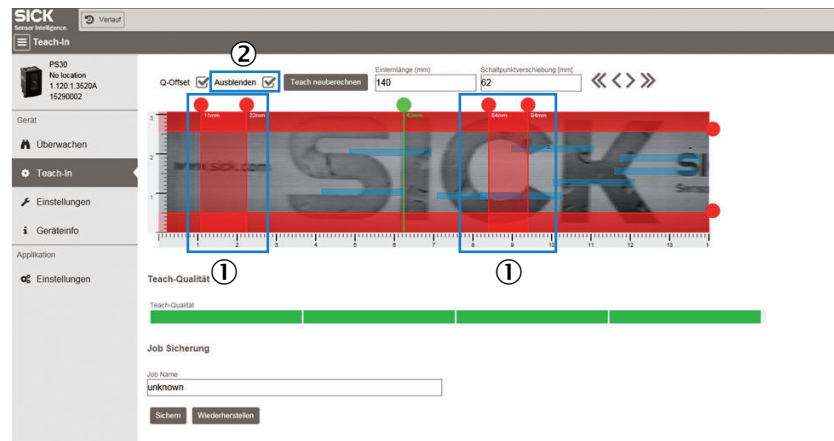

Figure 38: Appearance of the Teach-in menu with blanking.
- ① Blanked areas or teach-in areas
- ② Recalculation of the reference areas
Selecting the checkbox using the cursor enables the blanking function; up to two areas (in Endless material operating mode) can then be blanked by moving the red markers using the cursor (see ① in the figure 38). Areas that have been blanked are no longer analyzed. Blanking provides a way of ignoring varying elements, for example a best-before date. In Single object operating mode, this provides a way of restricting the area of the label to be analyzed. To activate the function, the reference areas must be recalculated by selecting the “Recalculate teach” field (see ② in the figure 38). The reference areas are placed in the non-blanked area. This can reduce the teach-in quality.